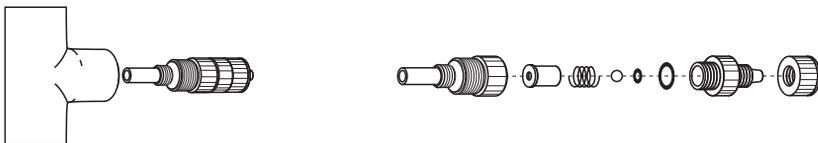

FIG. 4.8
- ☞ Periodically clean the injection/check valve assembly, especially when injecting fluids that calcify such as sodium hypochlorite. These lime deposits and other build ups can clog the fitting, increase the back pressure and interfere with the check valve operation. See section 4.3.4. Fig. 4.8.